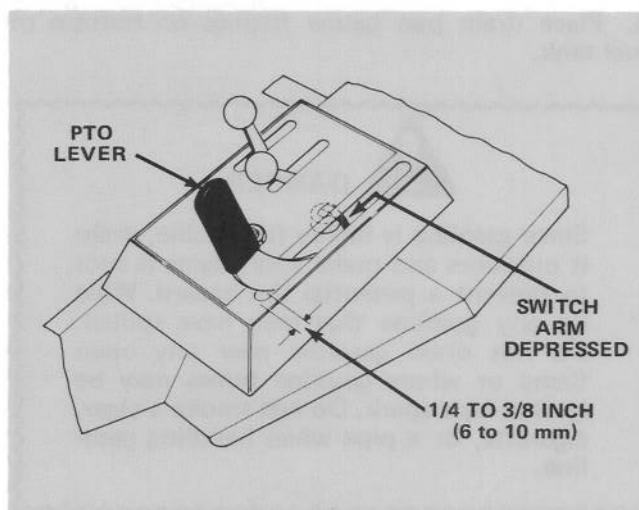

Figure 71
1. Visually check PTO lever to be sure it deflects switch arm when lever is in the disengaged position (Fig. 71). Back surface of PTO lever must be within 1/4 to 3/8 in. (6 mm to 10 mm) from end of the slot (Fig. 71). If PTO lever does not deflect switch arm, proceed to step 2.
2. Pull high tension wire off spark plug. To adjust the PTO lever, remove the seat cover. Loosen jam nut from PTO engaging yoke (Fig. 72). Loosen adjusting screw until PTO lever is within 1/4 - 3/8 in. (6 - 10 mm) from end of the slot, when lever is in the disengage position (Fig. 71). This will deflect the switch arm. Tighten jam nut against yoke to lock the adjustment in place (Fig. 72). Move PTO lever to disengage position and rotate locknut at top of spring until the dimension of spring, between the top and bottom flatwasher, is 3-9/16 in. (9.0 cm) (Fig. 72). Repeat step 1.